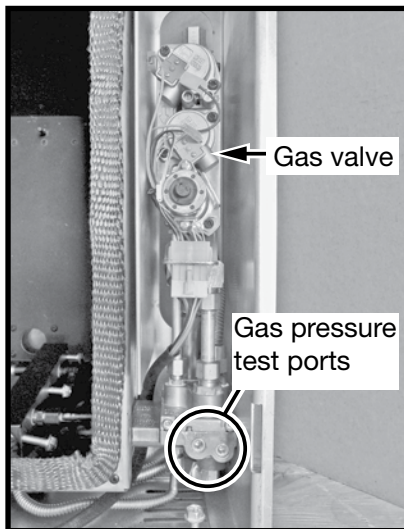

Figure 38: Gas valve location.
2. Locate the inlet and outlet test points on the valve which can be seen in (Figure 38). After locating test ports loosen the cap ends within the ports using a 3/16" Allan key.